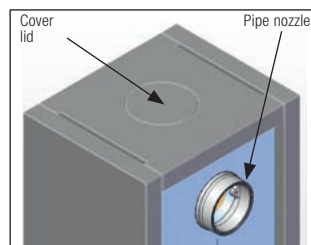
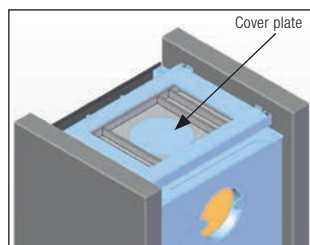
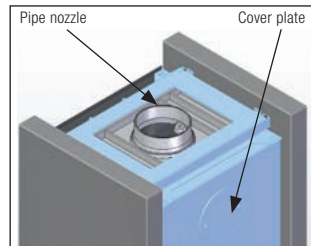
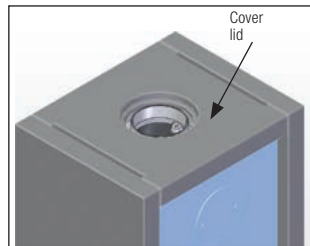

Fig. 4a
Fig. 4b
Fig. 4c
Fig. 4d
**Assembly from the rear to the top:** If the chimney connecting piece is already assembled, please remove. Remove the top cover lid and the cover lid for the top flue gas connection (Fig. 4a). Then disassemble the pipe nozzle of the rear outlet. Firstly undo the screws (Fig. 4a). Undo the screws and remove the cover plate (Fig. 4b). Assemble the pipe nozzle on the top flue gas connection (Fig. 4c). Then assemble the cover plate on the rear flue gas connection (Fig. 4c). Finally put the cover lid back in place (Fig. 4d).